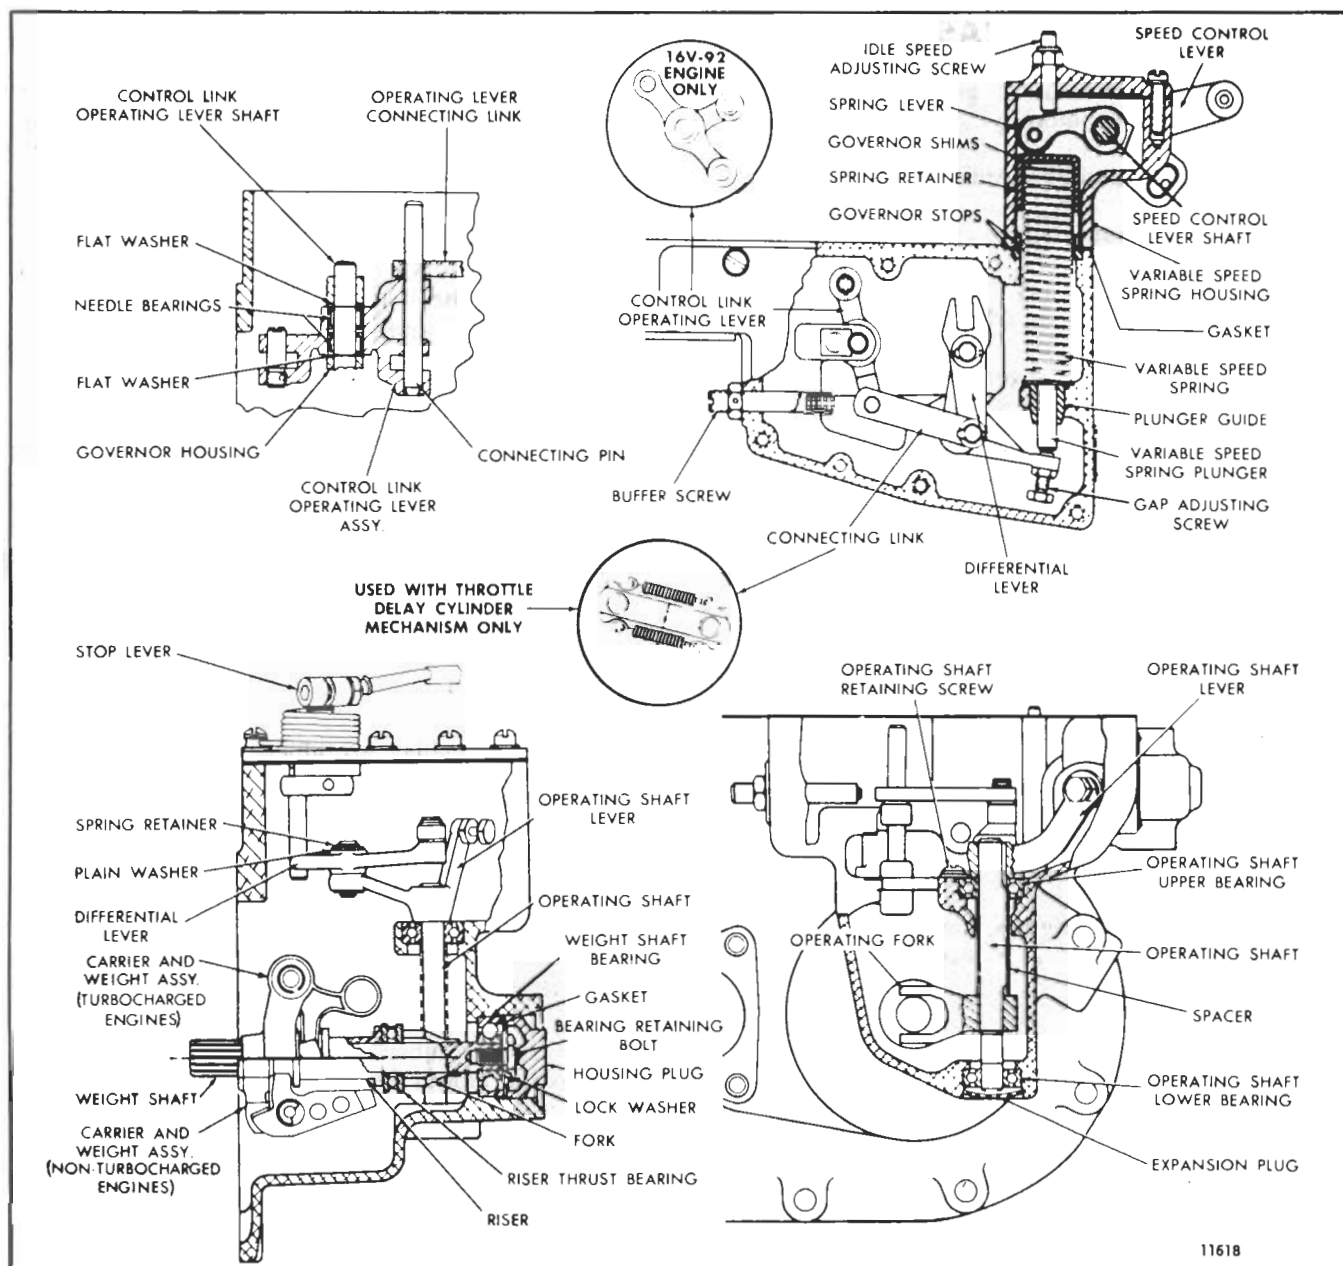

Fig. 1 - Cross Sections of Variable Speed Mechanical Governor
Adjustment of the maximum no-load speed is accomplished by varying the tension on the variable speed spring by the installation or removal of stops and shims (Fig. 1). Refer to Section 14.4 (6 and 8V engines) or 14.4.1 (16V engine) for the maximum no-load speed adjustment.
5. Remove the fuel rods from the control link operating lever assembly (Fig. 1) and the injector control tube levers as follows: